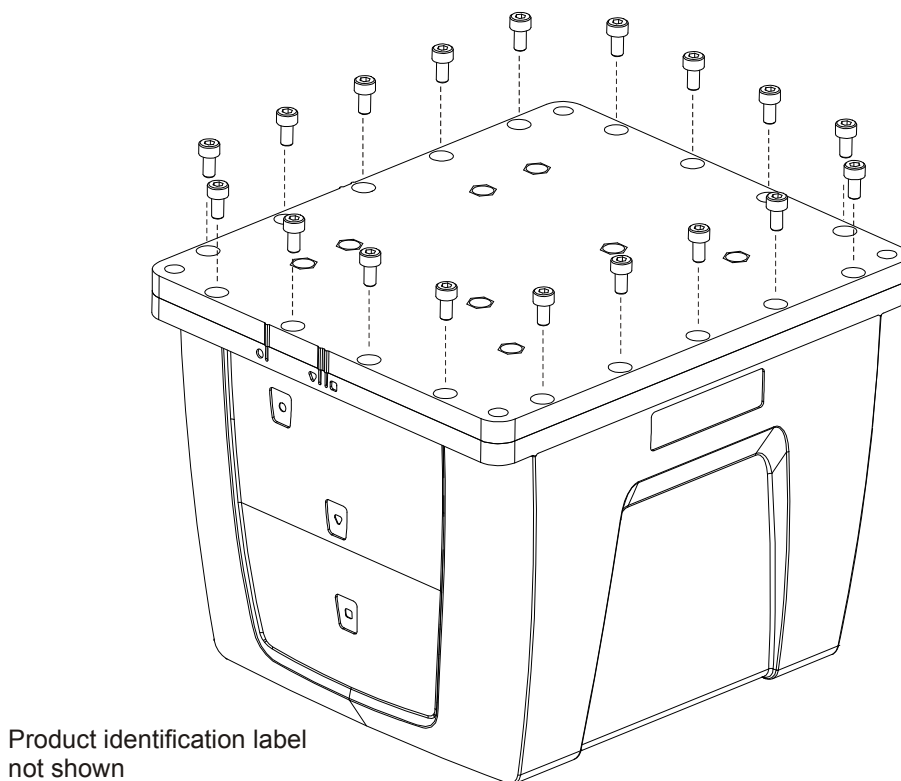

Figure 73: Screw Enclosure Base to Body
6. While squeezing and holding the enclosure body and base together to maintain tight contact, carefully turn the assembly over and place it on its top, as shown in *Figure 73*. Using a 3 mm hex bit, lightly fasten four equally spaced M4 screws to hold the parts together. Use thread-locking fluid on all screws. Install the remaining screws in similar fashion. Tighten all screws to 1.36-1.58 N-m (12-14 lb-in). Do not over-tighten.